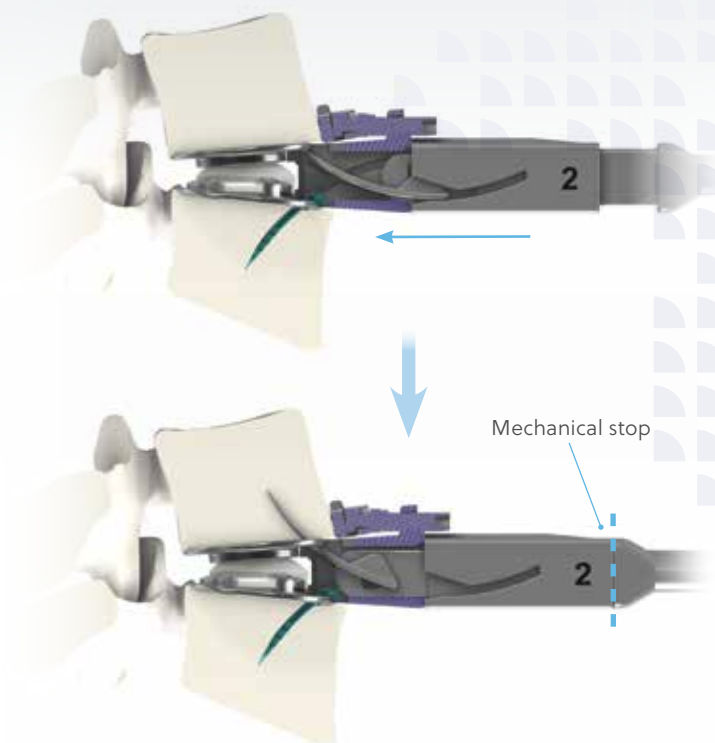

Figure 44
- Start again these steps until the mechanical stops of the bone chisel on the guide **(Figure 44)**.